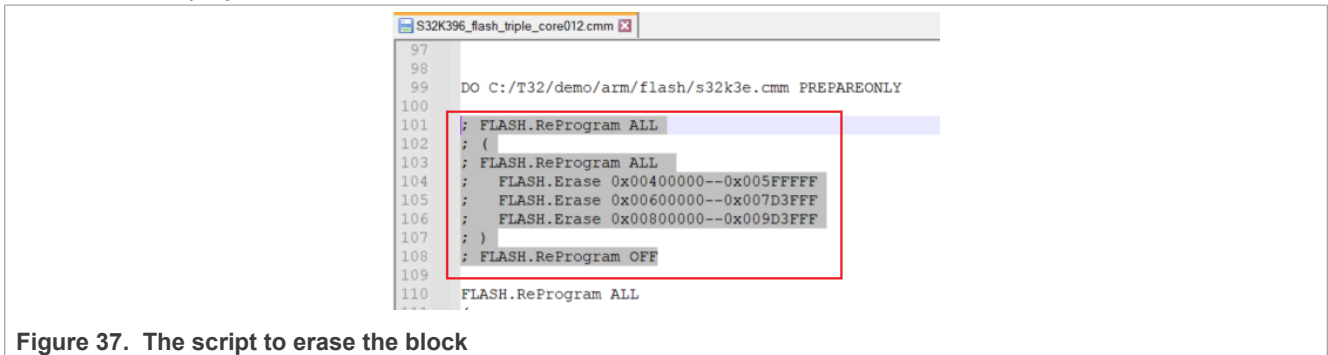

Figure 37. The script to erase the block
2. Download the application into flash memory. Download s32k396_bootloader.elf into flash by Lauterbach with s32k396_flash_c0.cmm. APP is erased every time the script runs. Erasing command can be found in Figure 37.